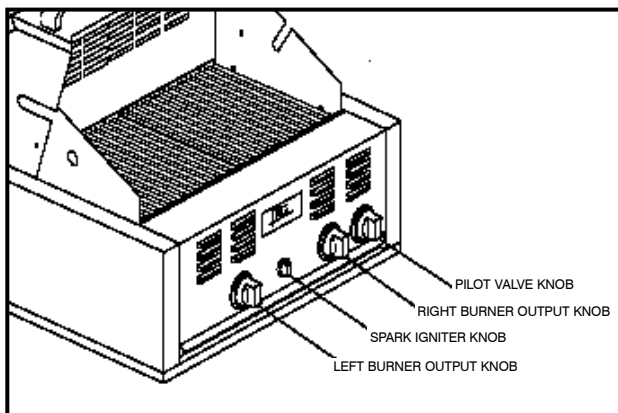

Figure 14. Grill Knobs
4. Slowly rotate the Igniter Knob clockwise twice and check for pilot flame. (See Figure 14.) If a flame is not present, turn the Pilot Valve Knob to OFF and wait 5 minutes. Then repeat steps 3 and 4.